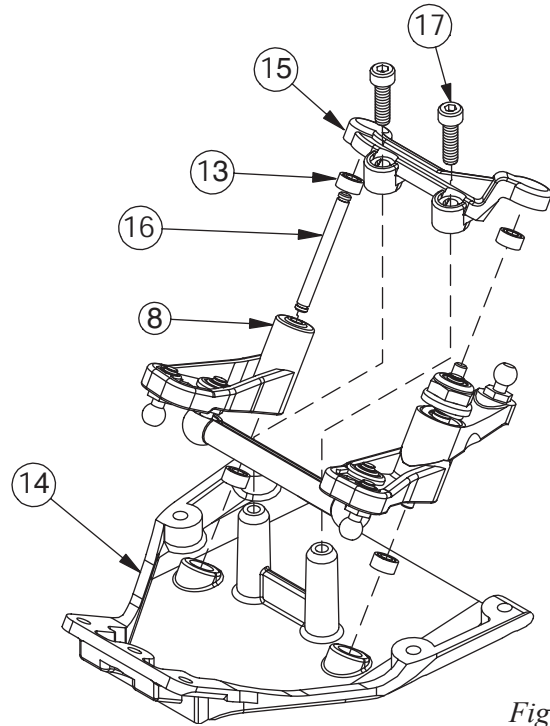

Figure 4
1. Insert a 3/32" x 3/16" Ball Bearing (13) into each of the two, angled holes in the bottom of the front Kickplate (14). Insert the other two Bearings into the two outer holes in the Steering Brace (15).
2. Insert a 3/32" x .930" Hinge Pin (16) through the hole in the steering Idler Arm (8) and center the Hinge Pin in the Idler Arm. Place the Servo Saver assembly and the steering Idler Arm into the Bearings in the Kickplate so that the installed Draglink is to the front as shown in Figure 4.
4. Secure the Steering Brace to the Kickplate using two 4-40 x 3/8" Cap Head Screws (17).